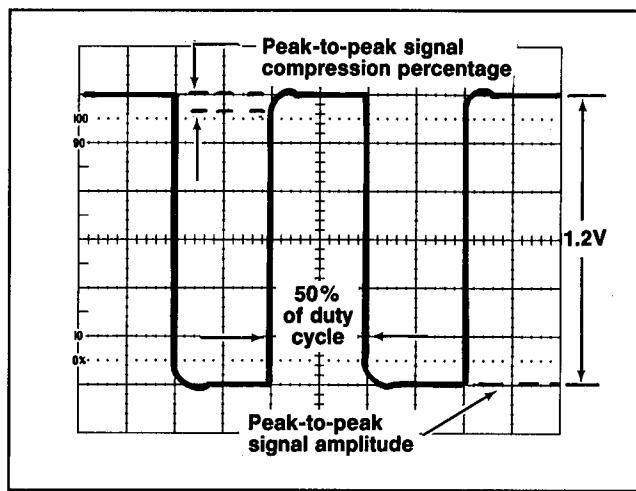

Fig. 5-6. Signal compression measurement.
g. CHECK—compression for 5% or less. Refer to Fig. 5-6.